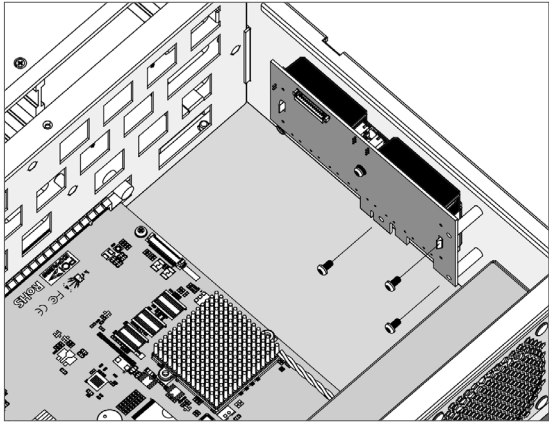

Figure B-10, Secure the Battery Module
2. After removing the cover, then secure the battery pack module (ARC-1883-BAT/CAP, reference NO.1 and NO.2 in Figure B-5) on the right side within the enclosure (for ARC-7308 & ARC-7312), as shown in Figure B-10.